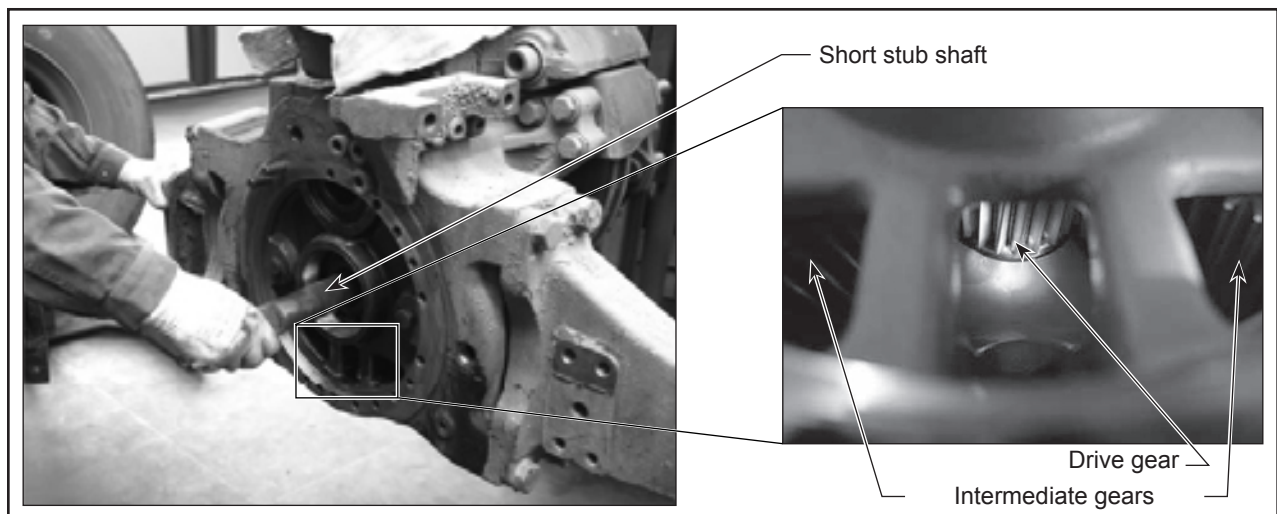

Figure 10 - Portal Drive Gear
2.28. Pull the short stub shaft out of the drive gear in the portal drive. See Figure 10.
2.29. Look into the portal drive in order to inspect the intermediate and drive gears for damage. See Figure 10.
- 2.50. Mount the short stub shaft on the portal drive gear. See Figure 10.